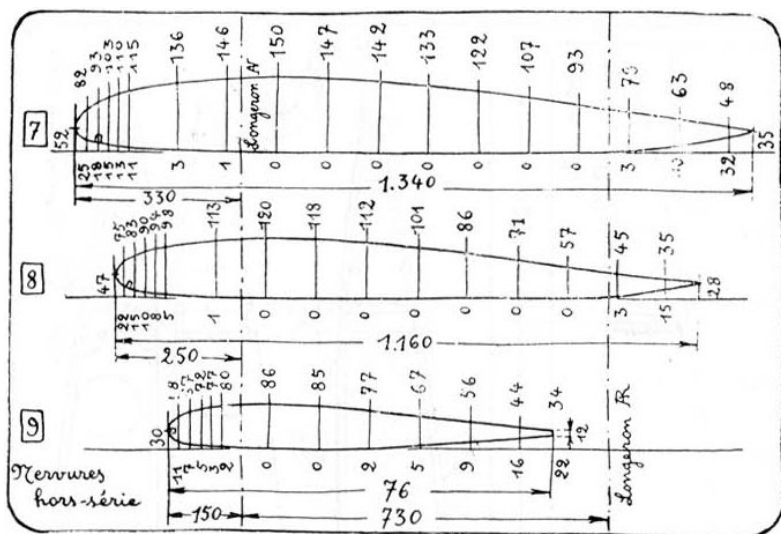

Figure 4.4: Non-standard rib pattern
The non-standard ribs (7), (8), and (9), of which you make four each, will be drawn and built in the same way; following Figure 4.4.